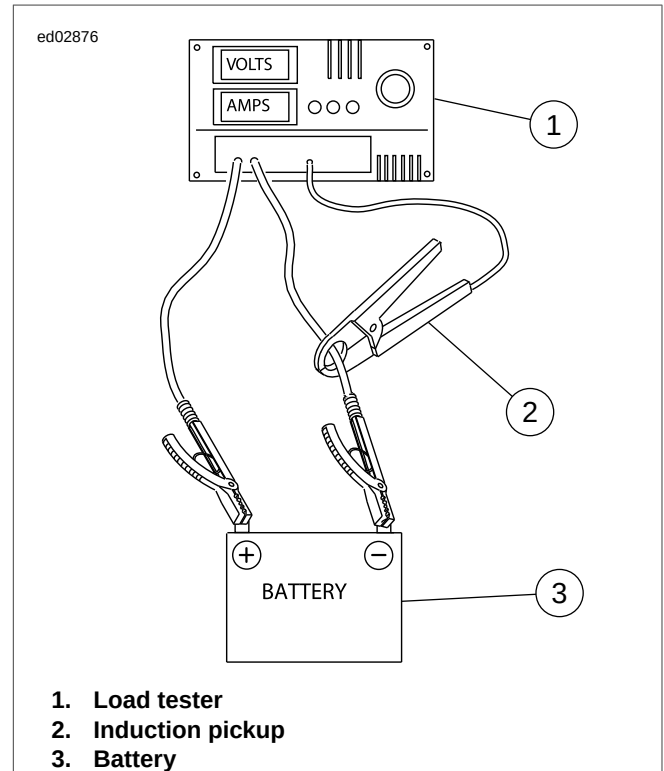

Figure 1-29. Load Test Battery
4. See Figure 1-29. Connect tester leads to battery posts and place induction pickup over negative (black) cable.